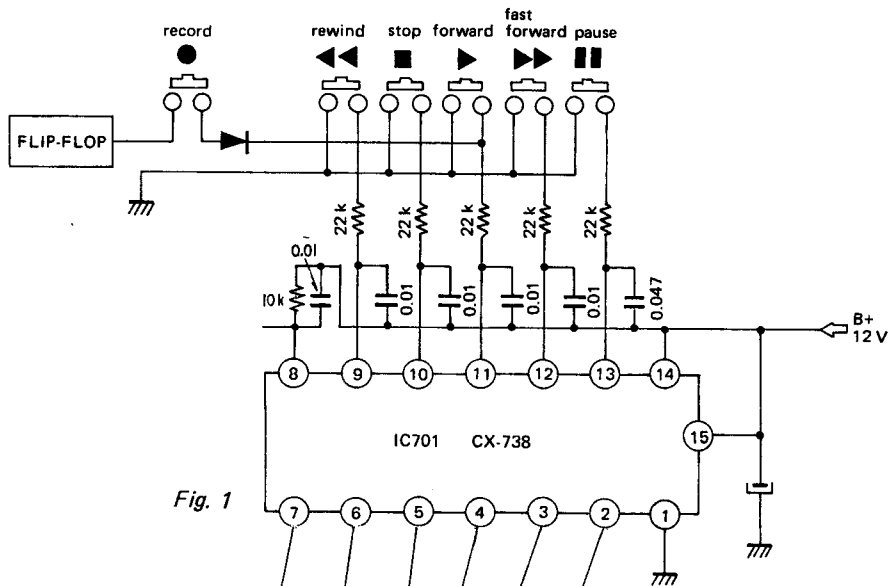

Fig. 1
1. Action of IC701 (CX733) (Refer to Fig. 1)
Fig. 1 indicates the output in each mode by a logic value.